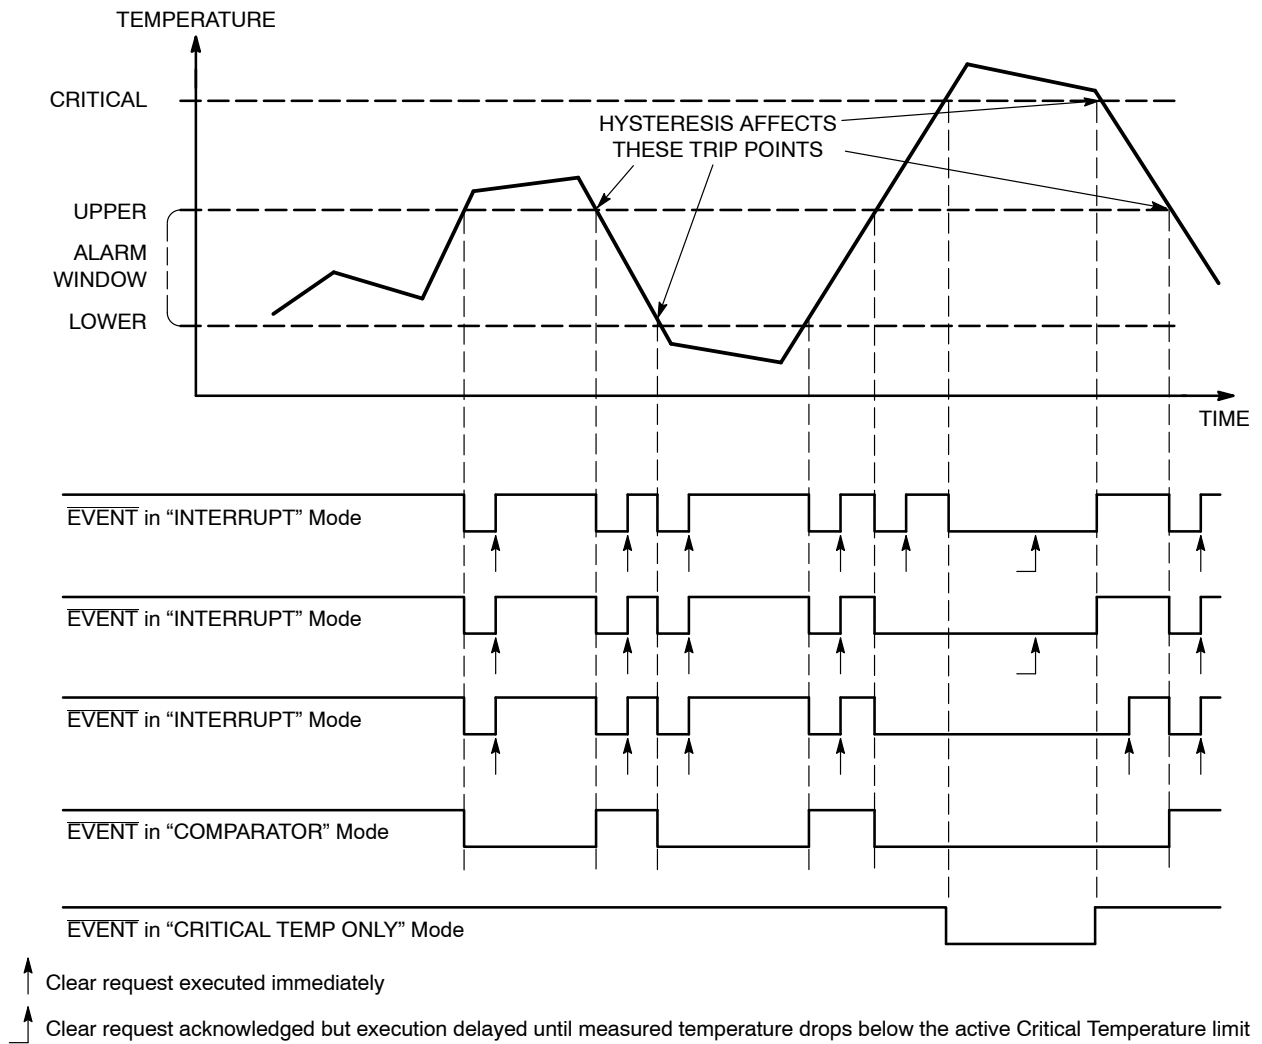

Figure 33. Event Detail
14. Writing a '1' to this bit clears an event condition in Interrupt mode, but has no effect in comparator mode. When read, this bit always returns 0. Once the measured temperature exceeds the critical limit, setting this bit has no effect (see Figure 33).
The $\overline{\text{EVENT}}$ output reacts to temperature changes as illustrated in Figure 33, and according to the operating mode defined by the Configuration register.